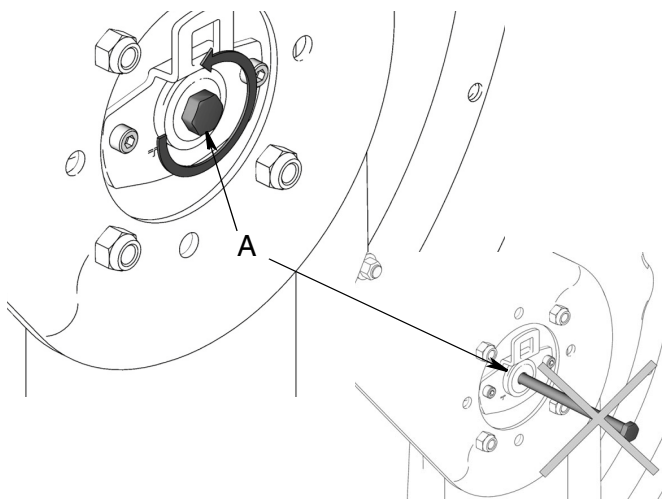

FIG. 10
1. If it is not already loose, loosen (A) 3-5 turns. Do not remove (A)! (FIG. 10).